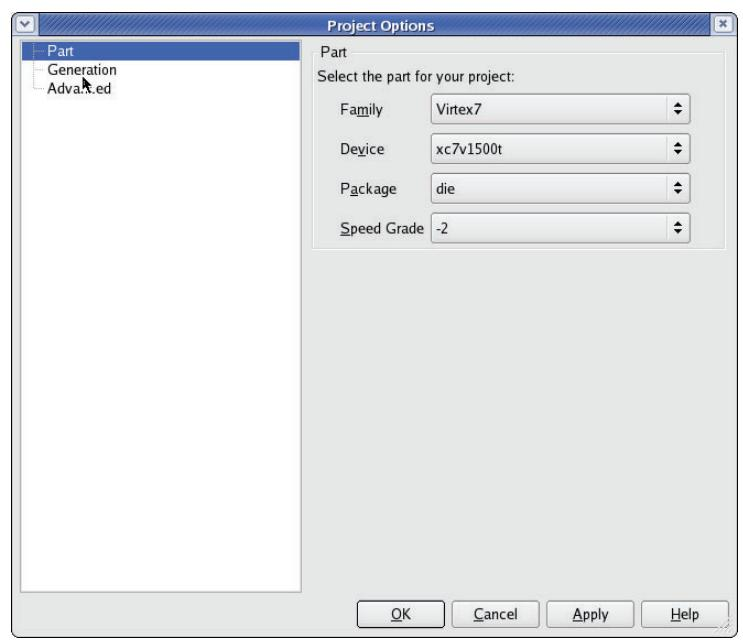
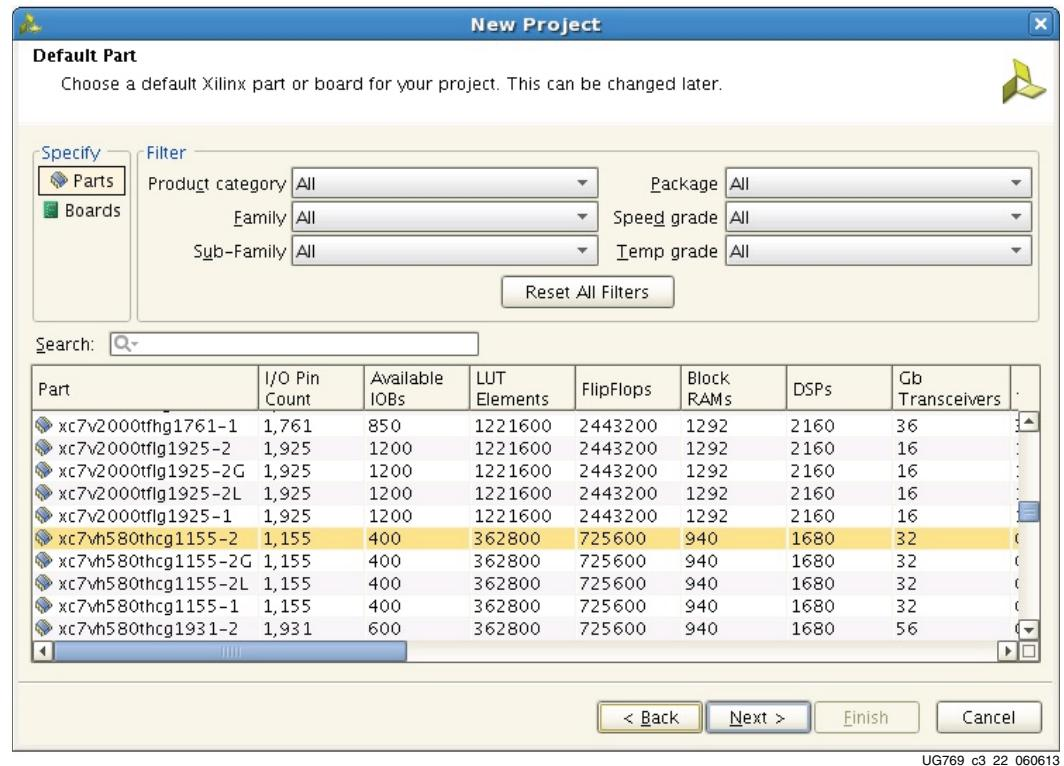

Figure 3-6: Target Architecture Setting
Figure 3-7: Target Architecture Setting (Vivado Tools)
4. Select an appropriate package from the Package list. This example uses the XC7V1500T device (see Figure 3-6 or Figure 3-7). For an example design using GTZ transceivers, select the XC7VH580T device.